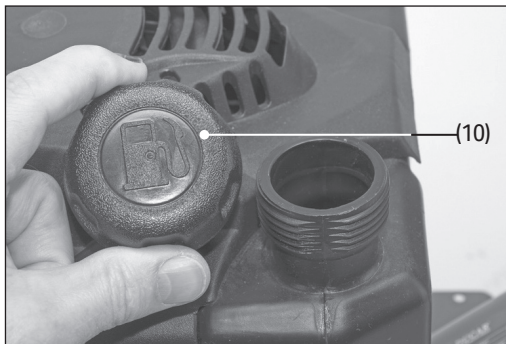

Fig. 16
1. Remove the fuel tank cap (10) (Fig. 16).
2. Fill the tank using the fuel filling funnel (H) so that the level is just below the filler neck.